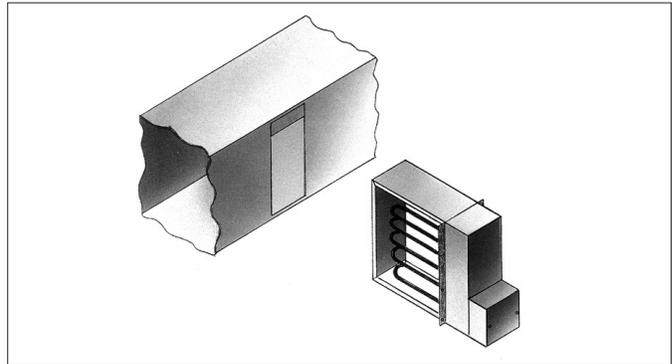

Figure 7 – Insert Type Installation
1. Make an opening in the duct at the selected location that is 1/8" greater than the height and width of the heater. Install the heater and secure it to the duct with sheet metal screws through the angle iron of the terminal enclosure (see Figure 7).